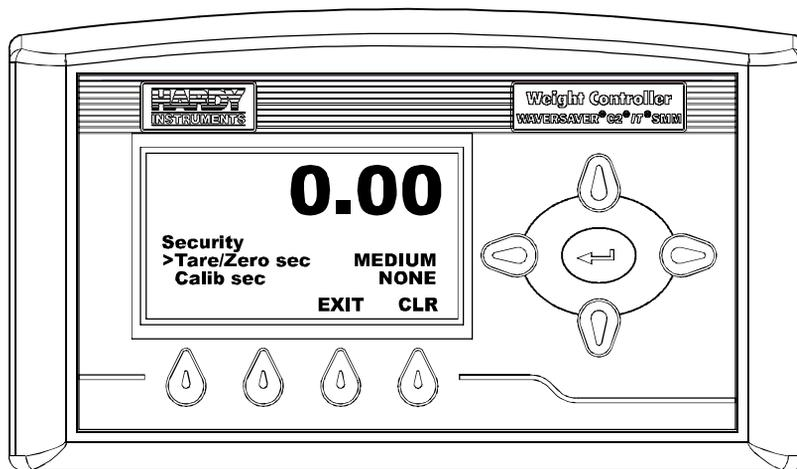

FIG. 285 SECURITY MENU/SELECIING MEDIUM SECURITY FOR TARE/ZERO
Step 13. Press the Right or Left arrow buttons to select NONE/MEDIUM/HIGH. In our example we selected MEDIUM. (See Fig. 285)